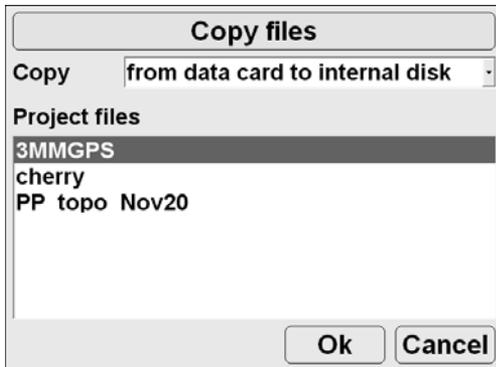

Figure 3-6. Copy File
4. Select “from data card to internal disk” and the file to copy from the *Project files* list (Figure 3-6). Tap **OK**.